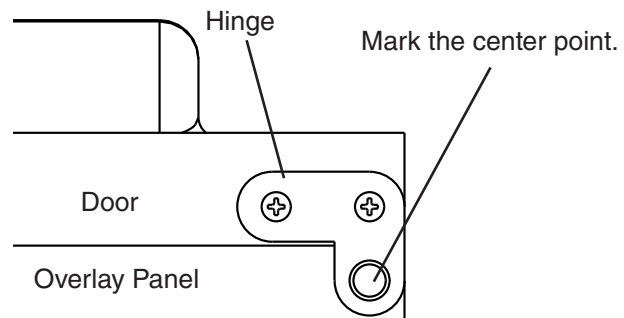

Fig. 19
- 10) Mark the centerpoint of the hinge (C1) and hinge (C2) holes that extend over the overlay panel. See Fig. 19.